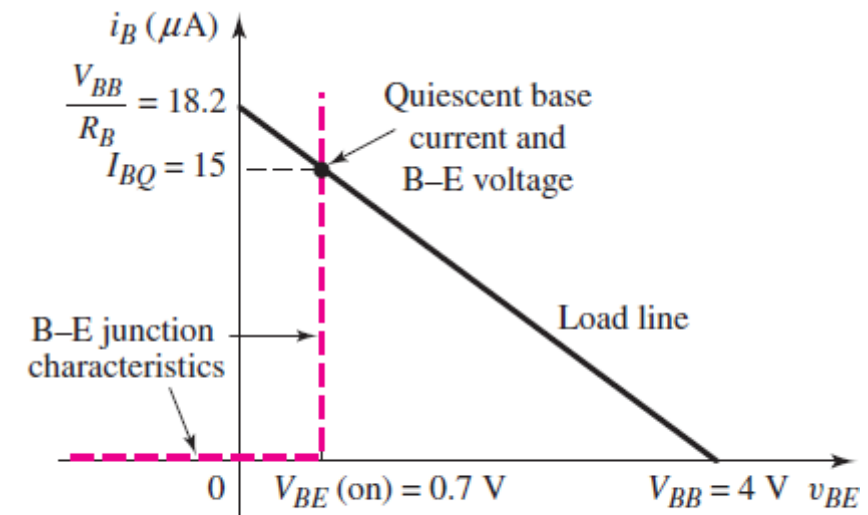

Figure 5.23(a)
- Figure 5.23(a) shows the piecewise linear characteristics for: